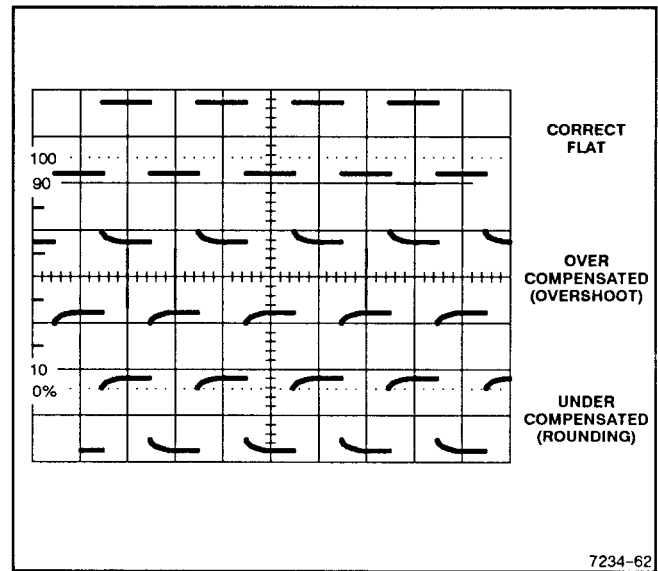

Figure 2-14. Probe compensation.
6. Check the waveform display for overshoot and rounding (see Figure2-14). If the probe needs to be compensated, use a small-bladed screwdriver or alignment tool to adjust for a square front corner on the waveform.
11. Check the waveform display for overshoot and rounding (see Figure 2-14). If compensation is needed, use a small-bladed screwdriver or alignment tool to adjust for a square front on the waveform.